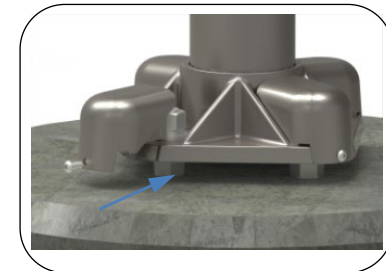
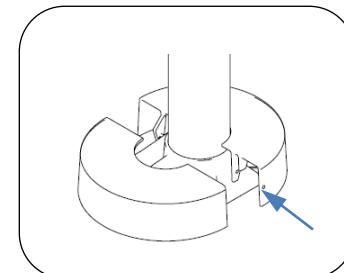

Fig. 10 – Install nut covers
Fig. 11 – Install cover plate
18. Install the nut covers as shown in Fig. 10 or the cover plate as shown in Fig. 11.